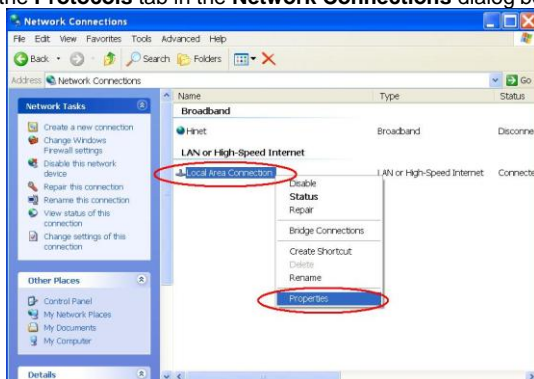

Figure A-4
**Step 3:** Click the **Protocols** tab in the **Network Connections** dialog box. See Figure A-4.